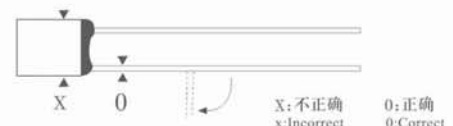

图 2 Fig.2
- 当弯曲引脚时，须用工具操作以确保引脚弯曲有足够弧度，引脚不可在距根部 3mm 内弯曲，在弯曲时工具不可夹着外壳及封口树脂。（见图 2）
- When forming leads, a tool should be used to ensure that the leads are formed with sufficient curve. Leads should not be bent closer than 3mm to the thermal cutoff body. Holders or tools used during lead forming must be kept away from seal or body. (see Fig2)